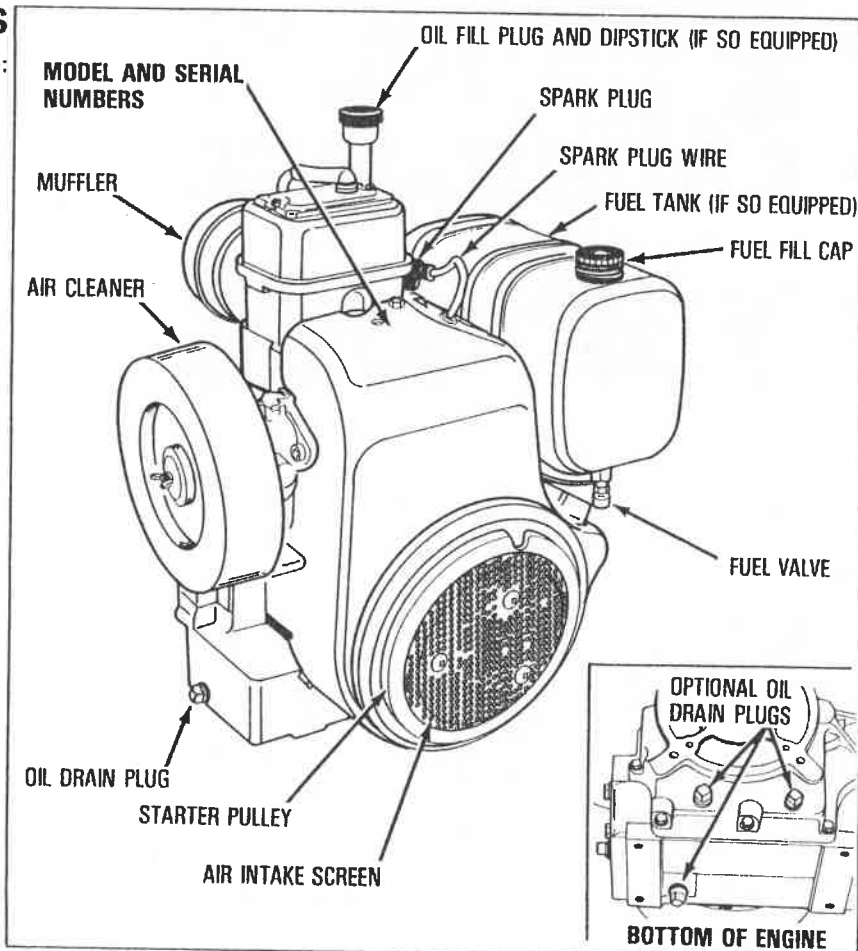

Figure 1
B. Clean area around oil fill plug (see Figure 1).
B. Be sure spark plug wire is attached to spark plug (see Figure 1).